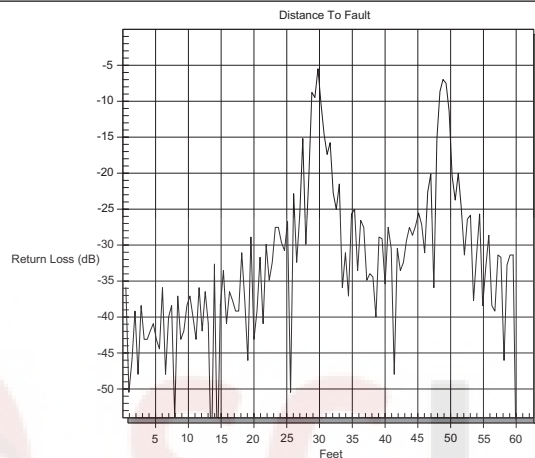

Figure 2-4. Rectangular Windowing Example
*In situations where there may be a small discontinuity close to a large one, side lobe reduction Windowing should be used. When distance resolution is critical Windowing can be reduced. The types of Windowing in order of increasing side lobe reduction are: rectangular, nominal side lobe, low side lobe, minimum side lobe. Figures 2-4 thru 2-7, on pages 2-21 and 2-22, are examples of the types of Windowing.*